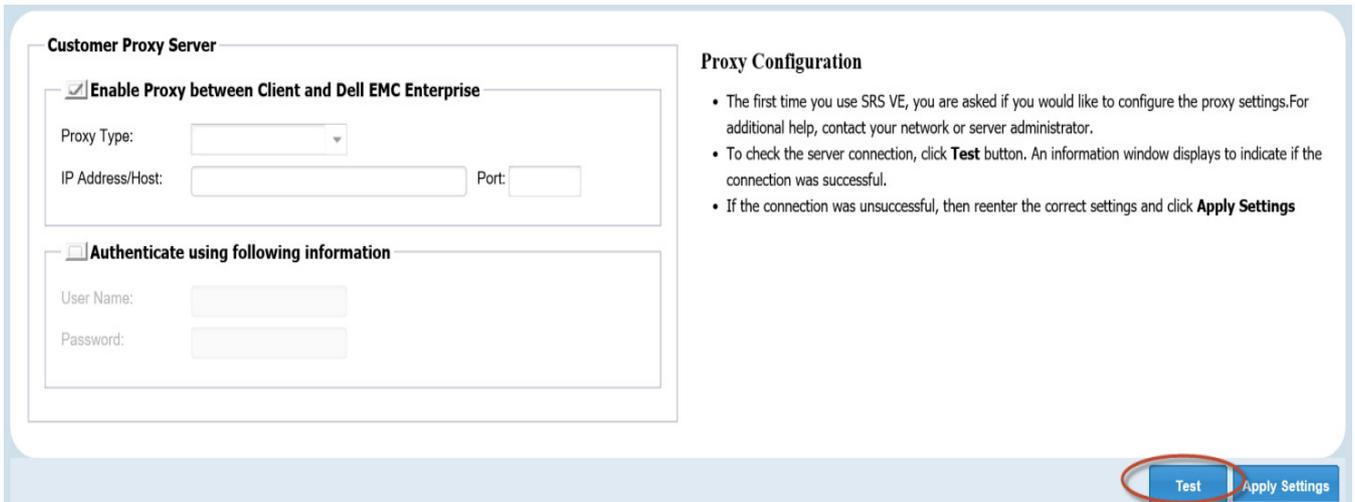

Figure 39 Selecting Test
1. Click the **Test** button, as shown in Figure 39 on page 42.